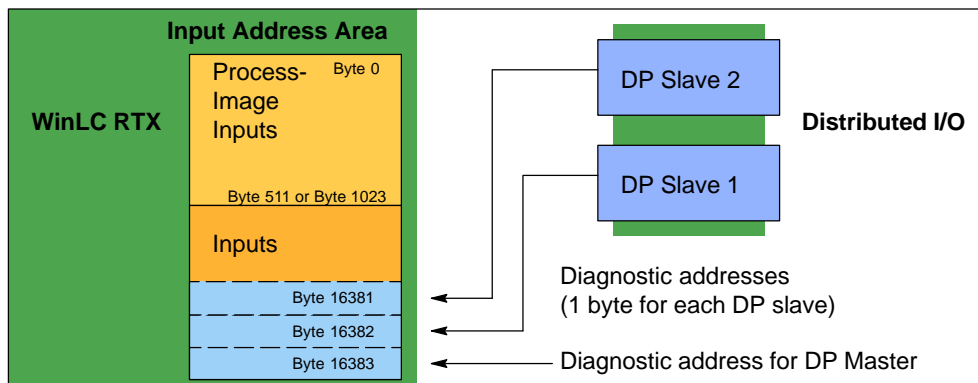

Figure 6-6 Diagnostic Addresses for the Distributed I/O
As you use the STEP 7 hardware configuration tools to configure WinLC RTX and the PROFIBUS-DP network, these diagnostic addresses are assigned above the process-image input (I) memory area. See Figure 6-6. If you do not enter a specific address, STEP 7 allocates IB16383 for the first DP slave, PIB16382 for the second, and so forth.